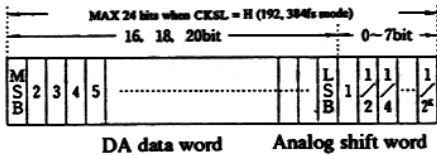

Figure 5 Configuration of Output Word
- In floating output, a word is configured from the DA data and analog shift words. (See Figure 5.)